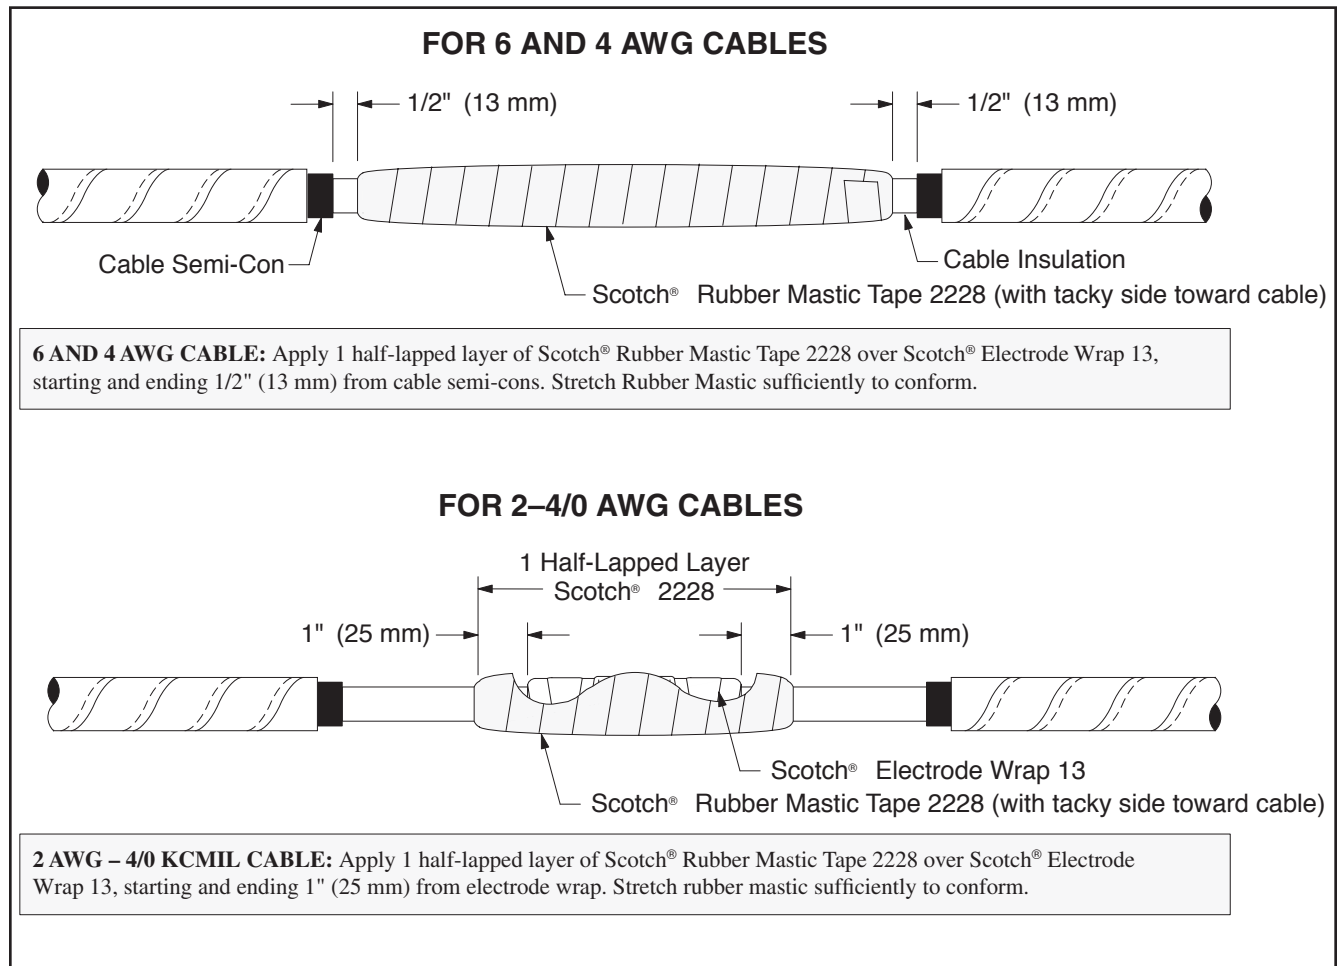

Figure 11
- a. Apply 1" wide Scotch® Rubber Mastic Tape 2228 tacky side down toward cable (*Figure 11*).